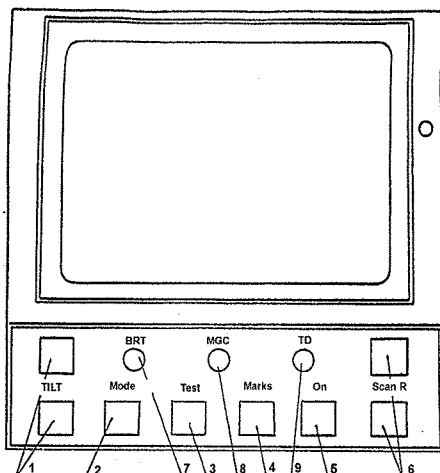

Fig. 7.2. Front panel of radar indicator
(3) The radar switching ON/OFF and control on the ground and in flight is performed with the following controls, located on the display front panel beneath the screen (Fig.7.2):